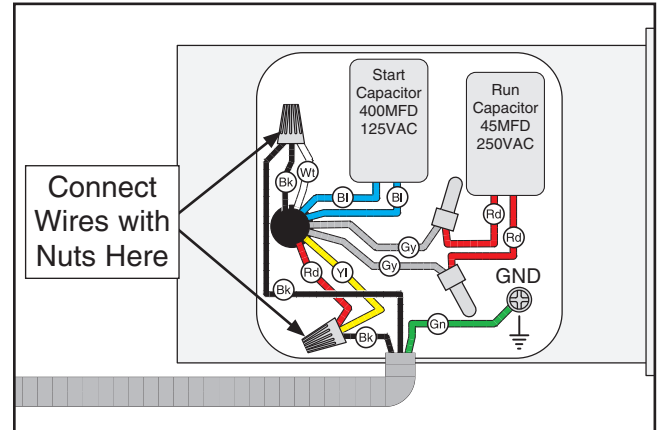

Figure 14. Model G0807 motor rewired to 110V.
4. Use wire nuts to connect wires, as indicated in **Figure 14**. Twist the two wire nuts onto their respective wires and wrap them with electrical tape so they will not come loose.